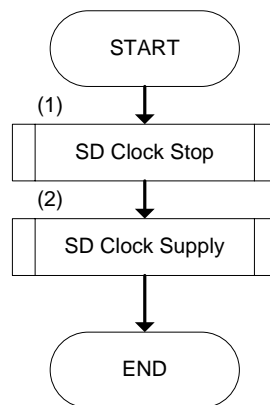

Figure 27-5. SD Clock Change Sequence
The sequence for changing SD Clock frequency is shown in Figure 27-5. When SD Clock is still off, step (1) is omitted.